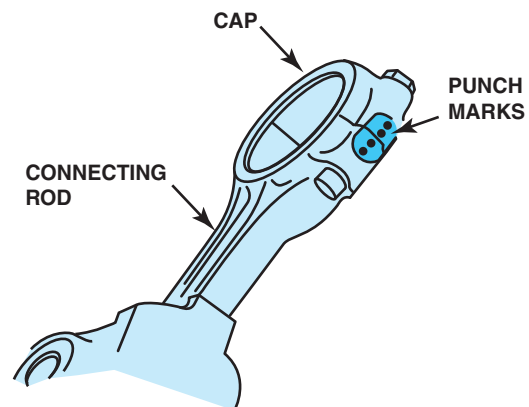

FIGURE 25-2 Punch marks on connecting rod and rod cap to identify their location in the engine. The cap and rod were machined together and must remain together.
Step 1 The rod and caps should be checked for markings that identify their location. *If the rod and caps are not marked, they should be marked before disassembly.* If number stamps are not available, punch marks, as shown in Figure 25-2, can be used.